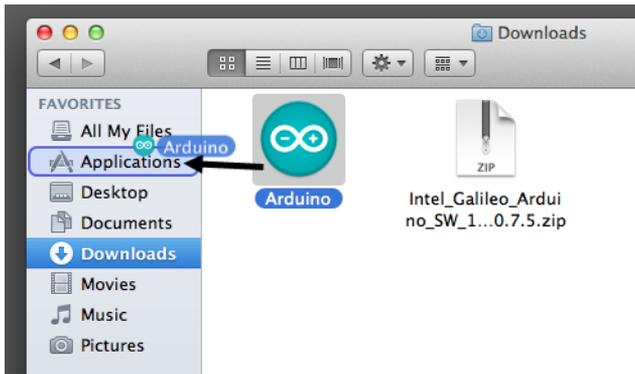

Figure G-1. Drag the Arduino application from your Downloads folder to your Applications folder.
4. In your *Downloads* folder, drag the Arduino application that was extracted from the ZIP file into your *Applications* folder (Figure G-1).